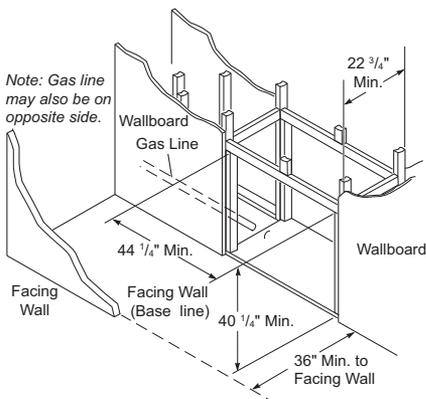

Figure 8 - Framing for Built-In Firebox Installation
1. Frame in rough opening. The firebox framing should be constructed of 2 x 4 lumber or heavier. Construct framing using dimensions shown in Figure 8 and 9, page 11. It is recommended that the framing be constructed first and the unit be placed in position by removing the nailing flanges from one side. After sliding the unit into place, the outer most flanges may be replaced and nailed to the framing on all sides before applying the wallboard to the exterior framing.